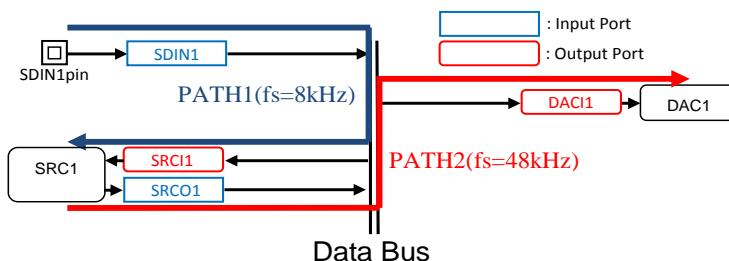

Figure 16. Data Path Example
e.g.) Data Path Example (Figure 16)
In the example of Figure 16, $2/f_s$ ($f_s=8\text{kHz}$) group delay occurs when inputting the SDIN1 data to SRC via data bus and another $2/f_s$ ($f_s=48\text{kHz}$) group delay occurs when inputting the SRC1 output data to DAC1 via data bus.
It is an example of outputting data from the DAC1 after converting $f_s=8\text{kHz}$ input data from the SDIN1 pin to $f_s=48\text{kHz}$ by SRC (Figure 16). The output port of SRC1 is in auto mode. Therefore the output port inherits the clock sync domain of SDIN1 input port.